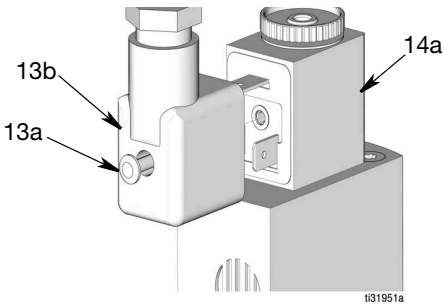

FIG. 36
- Loosen screw (13a) on the back of the mini DIN solenoid connector (14a) and disconnect it from the solenoid connector (14a). Discard cord assembly (FIG. 36).
- Reconnect the DIN connector (13b) to solenoid connector (14a) (FIG. 36).